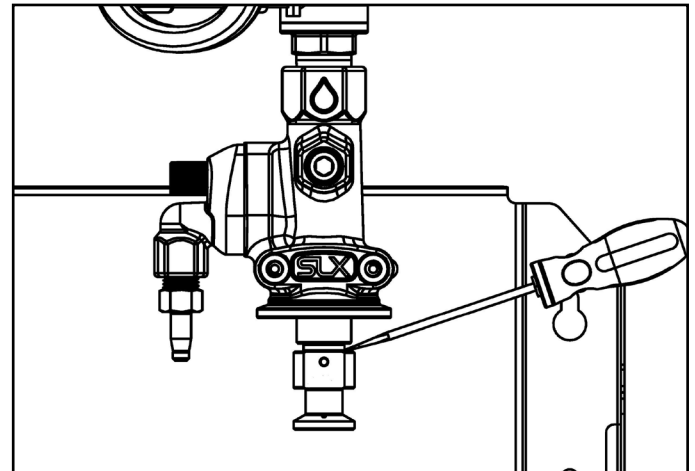

Fig. 9.2: Venturi insert removal using screwdriver
- A screwdriver can be used to pry the insert out if necessary [Fig. 9.2]